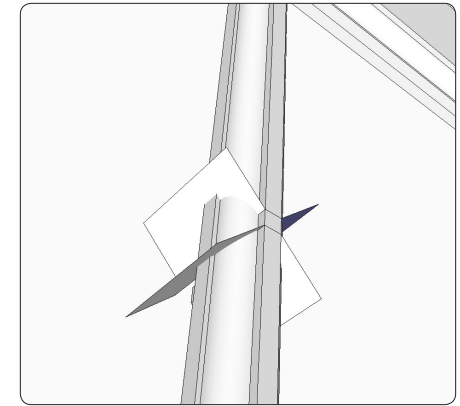

Figure 69. Place more cutting planes to miter the vertical muntin where it crosses with a horizontal one.
Step 9 Determine where the muntins will cross and place guidelines to aid in drawing cutting planes. Draw a pair of cutting planes (Figure 69) to miter the muntin again. The space between the cutting planes equals the width of the central rib in the muntin. As before, select the graphics and execute an Intersect Faces with Selection command. Once you have